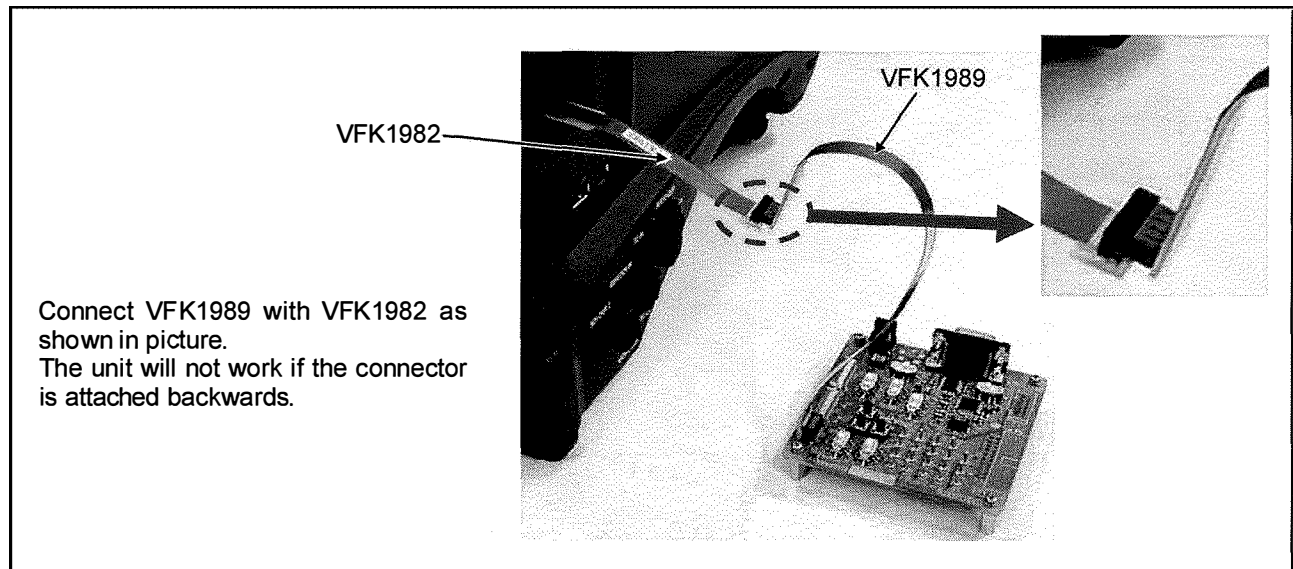

Figure 1-2-5
5. Connect the Extension Cable (VFK1989) to Extension Cable (VFK1982) as shown in figure 1-2-5.